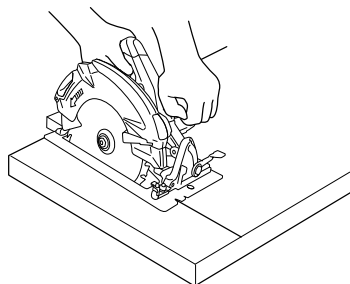
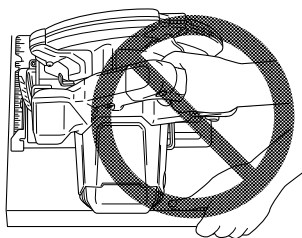

Fig. 2
Fig. 3
*As examples, Fig. 2 illustrates the RIGHT way to cut off the end of board, and Fig. 3 the WRONG way. If the work piece is short or small, clamp it down.*